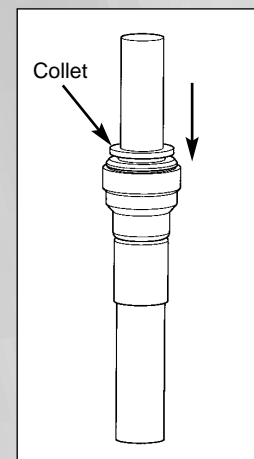

Fig.4. Push fit fittings.
7. Release unit from pipes by pressing the grey collects on the elbow fittings, and pulling the unit off the pipework. Fig.4.